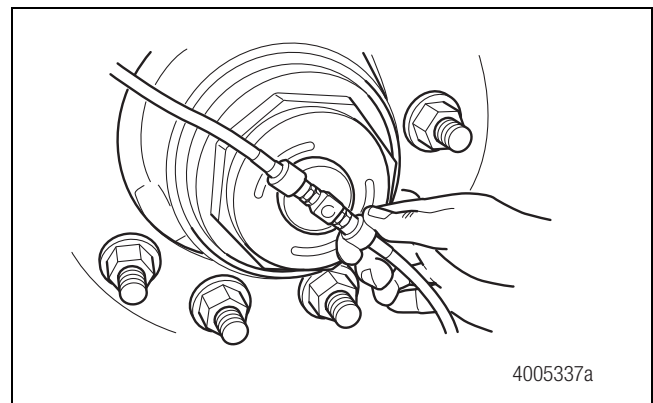

Figure 3.19
8. When the test-tire pressure is correct, hand-tighten the remaining tire hoses to the thru-tees. Do not use pliers. The tire inflation system will inflate all of the tires to the specified pressure. At this point, the system is fully assembled. Figure 3.19.